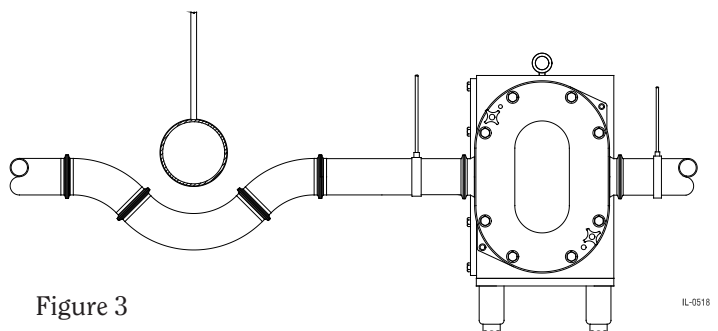

Figure 3
- Avoid sump areas where sediment may collect (Figure 3).